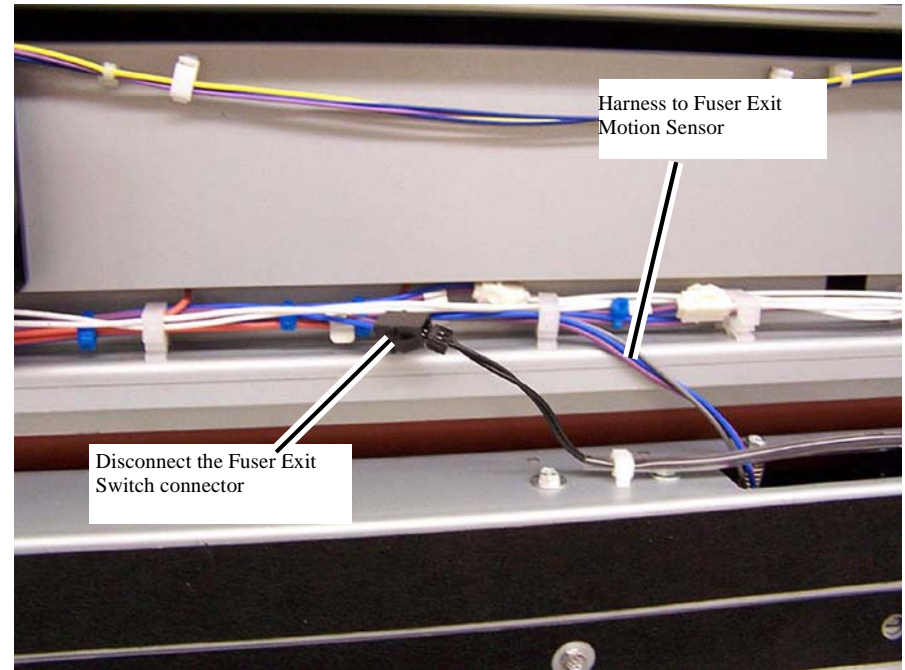

Figure 3 Disconnecting the Fuser Exit Motion Sensor and the Fuser Exit Switch
5. Disconnect the connectors from the Fuser Exit Motion Sensor and the Fuser Exit Switch. The connector for the Fuser Exit Motion Sensor is located inside the Exit Upper Baffle/Decurler Assembly and can be accessed from above through the cutout (Figure 3).